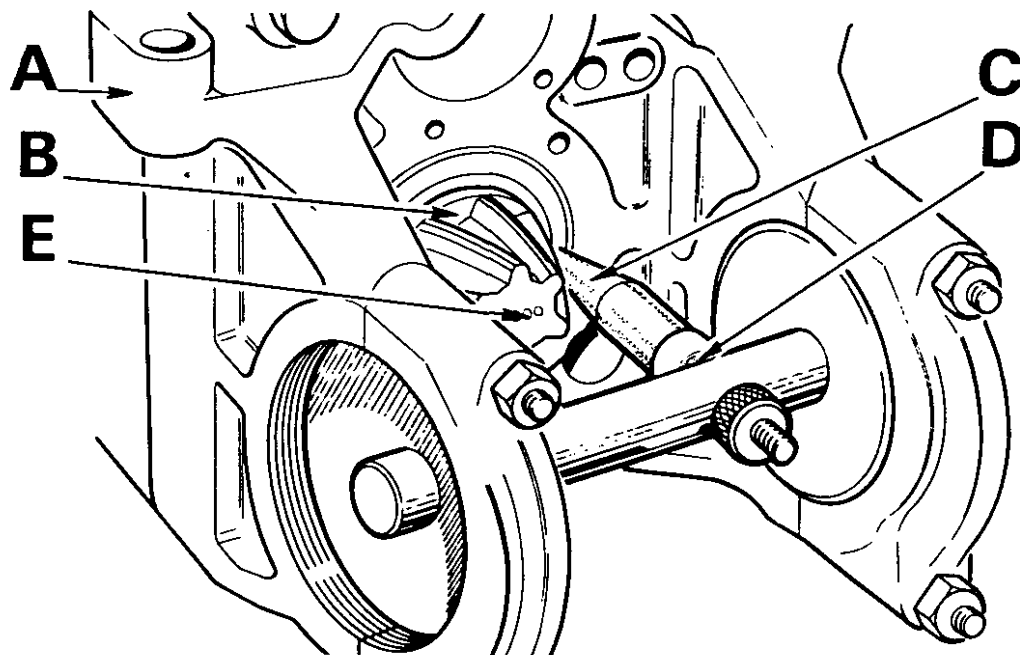

Figure 17.
2. Slide mandrel to bring probe into position and unscrew probe until probe tip makes light contact with rear face of pinion bearing or, if pinion is fitted with a circular trough, the rear face of trough. Tighten locknut to prevent probe turning then recheck that it is making light contact with bearing or trough. (Fig. 17).